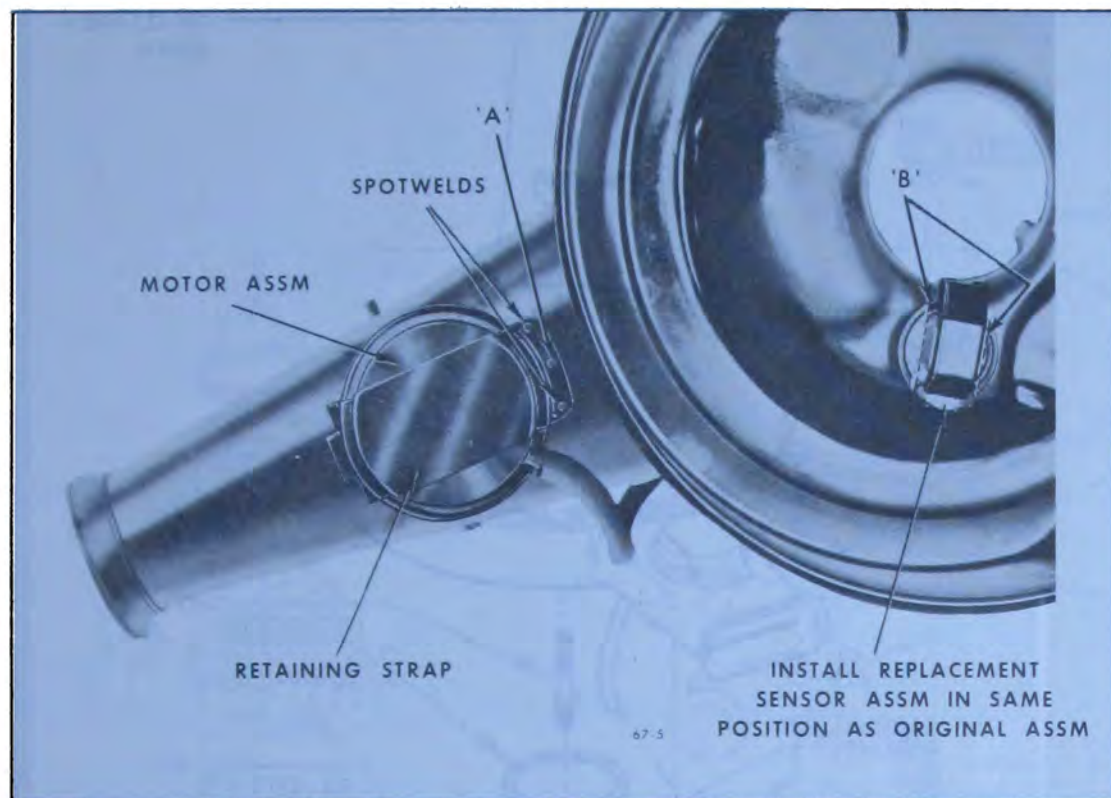

Figure 67-5—Replacing Vacuum Motor Assembly
3. Remove vacuum motor retainer strap. See Figure 67-5.
5. Drill a 7/64" hole in snorkel tube at point "A" as shown in Figure 67-5.
5. Install sensor retaining clip, meanwhile supporting sensor at B around the outside rim to prevent damage to the temperature sensing spring. See Figure 67-5.